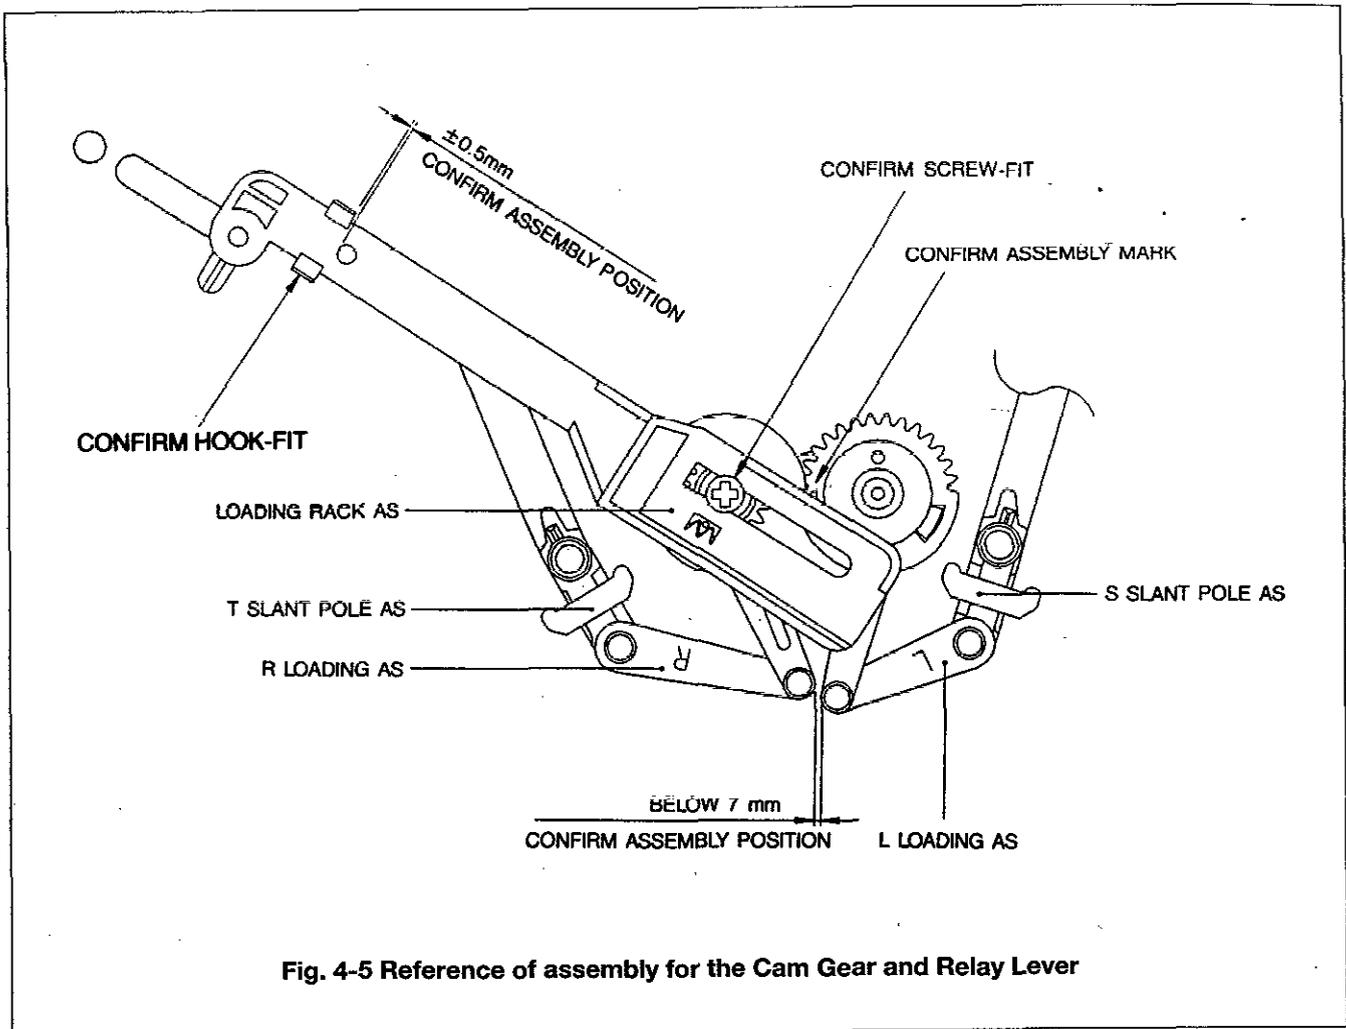

Fig. 4-5 Reference of assembly for the Cam Gear and Relay Lever
- 3) Make sure of the assembly position between the Loading Rack and the R & L-Loading Ass'y (refer to Fig. 4-5).